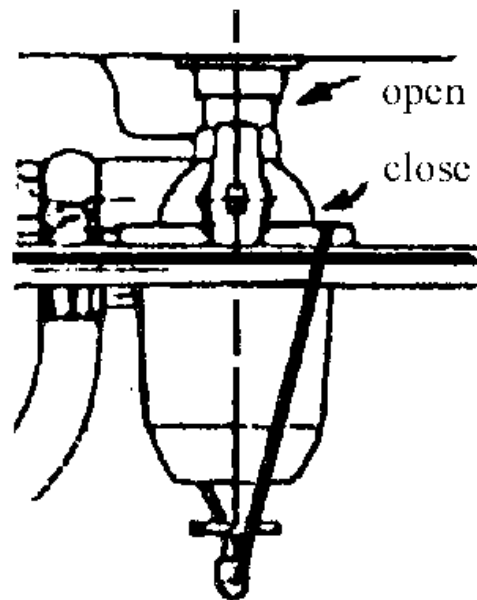

Fig.4-7
(3) Unscrew the switch of the sediment cup. (Fig 4-7)
- g. Take the key out of the preheating switch.(Fig.4-7 and 4-1)